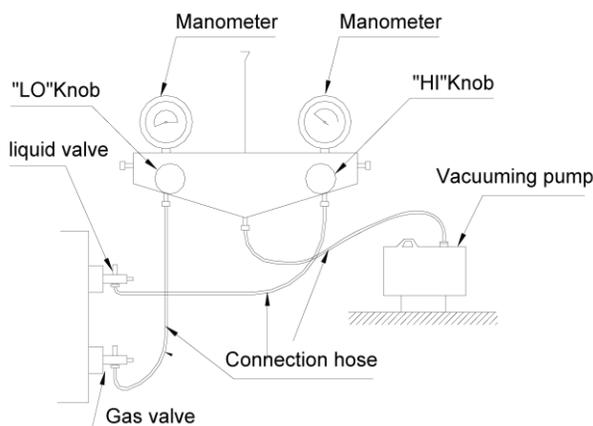

Fig. 4.4.1
- (1) Confirm outdoor liquid and gas valves are closed. Air purging from the nozzle located on liquid and gas valves by vacuum pump. See Fig. 4.4.1.